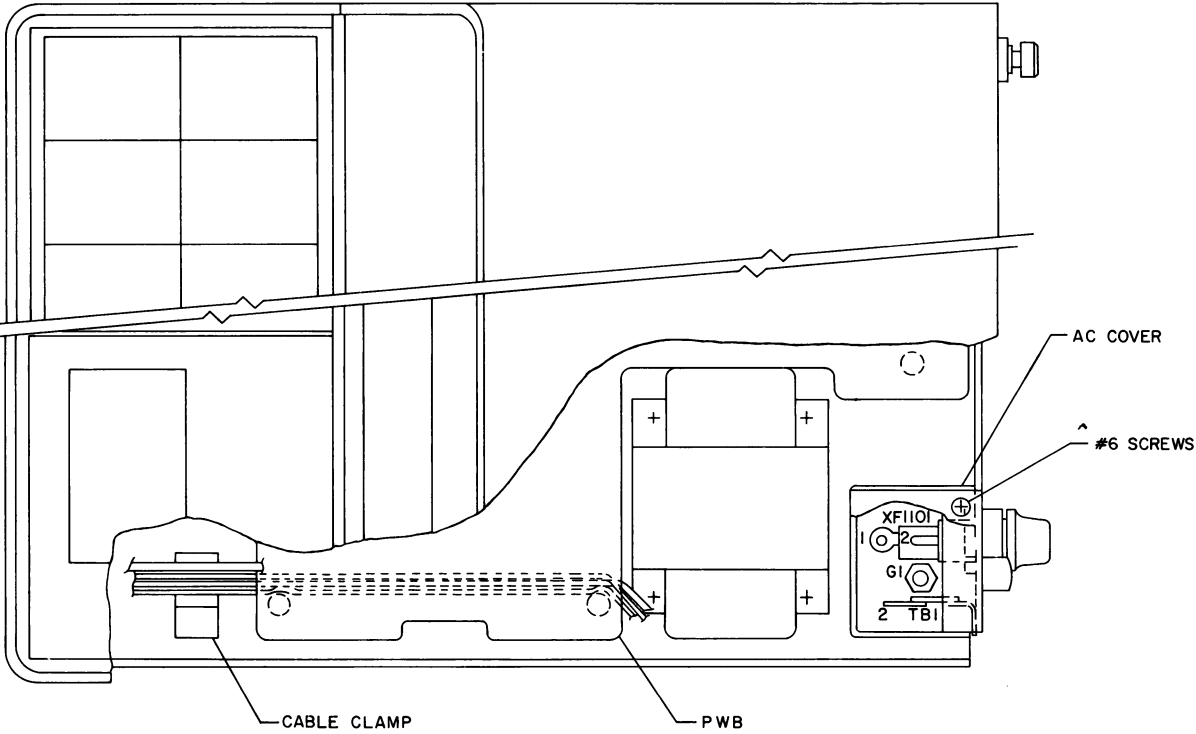

FIG. 2
5. ROUTE WIRES FROM CLOCK UNDER PWB AS SHOWN IN FIG. 2. DO NOT ROUTE THRU CABLE CLAMP OR SPOT TIE TO OTHER WIRING.
4. ROUTE POWER CABLE THROUGH HOLE IN CHASSIS AS SHOWN IN FIG. 2 AND VIEW "A". REMOVE 4 SCREW AND COVER FROM DIGITAL CLOCK (PL19C321135G1). FIG. 3 REMOVE 6 SCREW AND CABLE CLAMP THAT HOLDS TWO .18 BK WIRES AND 1 .18 GREEN WIRE. UNSOLDER TWO BK WIRES FROM TBI AND DISCONNECT GREEN WIRE FROM G11. REPLACE WITH POWER CORD (PL19A129871G1) BY SOLDERING BK WIRE TO TBI-1, WHITE WIRE TO TBI-2 AND CONNECT GREEN WIRE TO G11. REPLACE CABLE CLAMP AND COVER.
- ② INSTALLATION INSTRUCTIONS:
4. ROUTE POWER CABLE THROUGH HOLE IN CHASSIS AS SHOWN IN FIG. 2 AND VIEW "A". REMOVE 4 SCREW AND COVER FROM DIGITAL CLOCK (PL19C321135G1). FIG. 3 REMOVE #6 SCREW AND CABLE CLAMP THAT HOLDS TWO #18 BK WIRES AND 1 #18 GREEN WIRE. UNSOLDER TWO BK WIRES FROM TBI AND DISCONNECT GREEN WIRE FROM G11. REPLACE WITH POWER CORD (PL19A130837G1) BY SOLDERING BK WIRE TO TBI-1, WHITE WIRE TO TBI-2 AND CONNECT GREEN WIRE TO G11. REPLACE CABLE CLAMP AND COVER.
INSTRUCTIONS: FOR FIG. 2